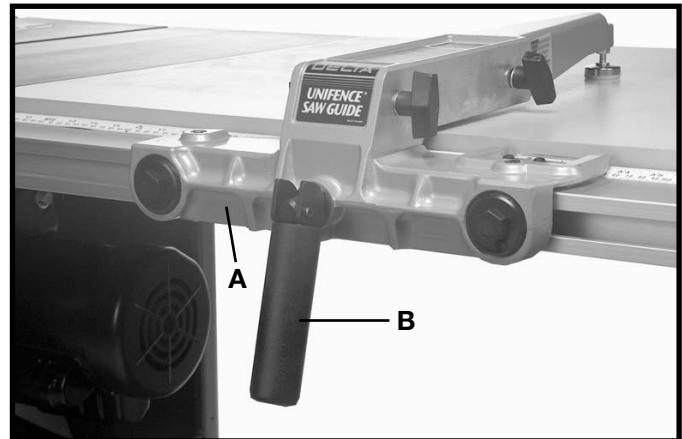

Fig. 88
4. Lock fence body (A) to the guide rail by pushing down on handle (B) as shown in Fig. 88.